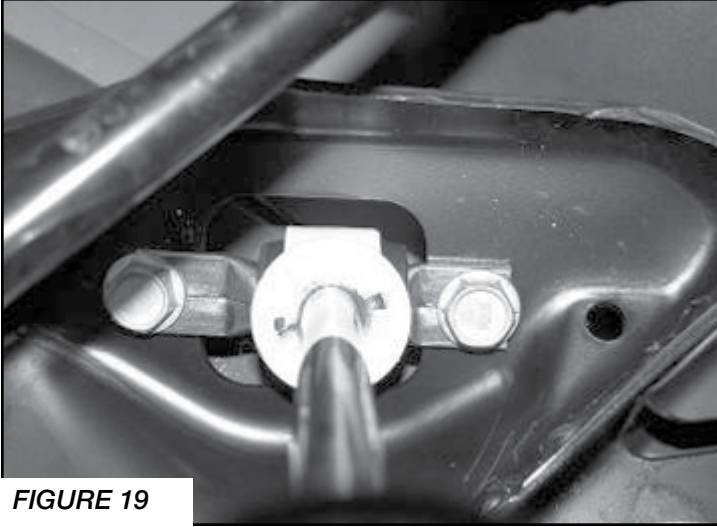

FIGURE 19
22. Install the Fabtech shocks FTS7265, FTS6265 using the supplied FT83255 bar pins or FTS810592 Dirt Logic. Use the factory upper and lower hardware to mount the shocks. Torque the upper hardware to 29 ft-lbs and the lower to 75 ft-lbs. SEE FIGURE 19